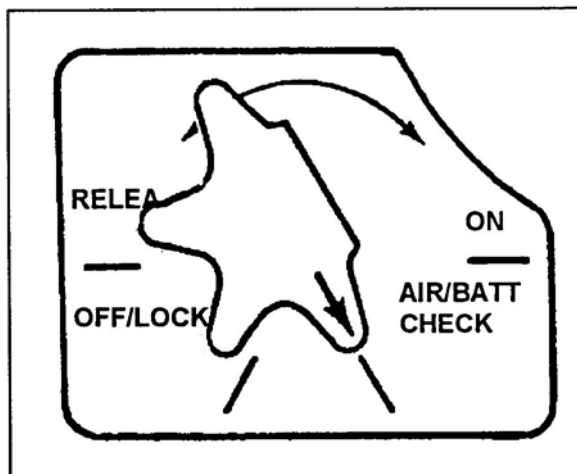

Figure 8. Actuator Switch
- a. Rotate the actuator switch counterclockwise from the OFF/LOCK position to the AIR/BATT CHECK position (Figure 8).